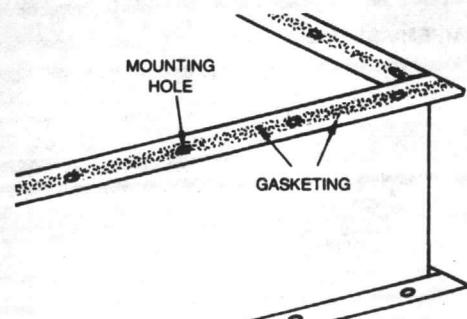

FIGURE 14.- Installation of Gasketing on the Damper Section
5. Apply gasketing to the damper section or double-duct frame. Refer to Figure 14. Gasketing is not required at the center of the damper section where the dividing plate will be fastened.
5. Apply gasketing to the damper assembly. See Figure 14. Gasketing is not required at the center of the damper section where the divider plate will be fastened.